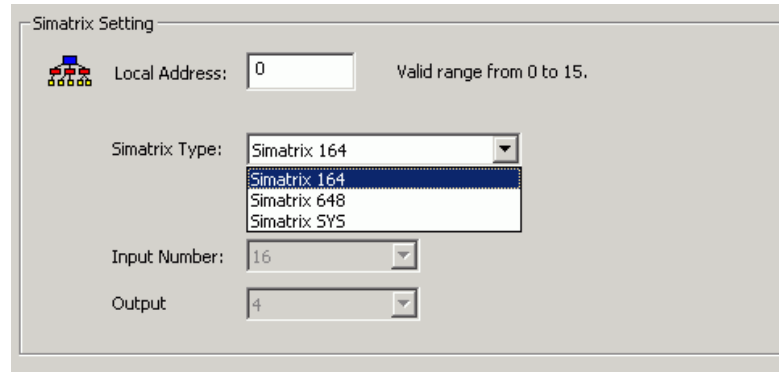

Fig 13 Selecting SIMATRIX type
2. In the **Node** tab form (Fig 13), set the **Local Address**.